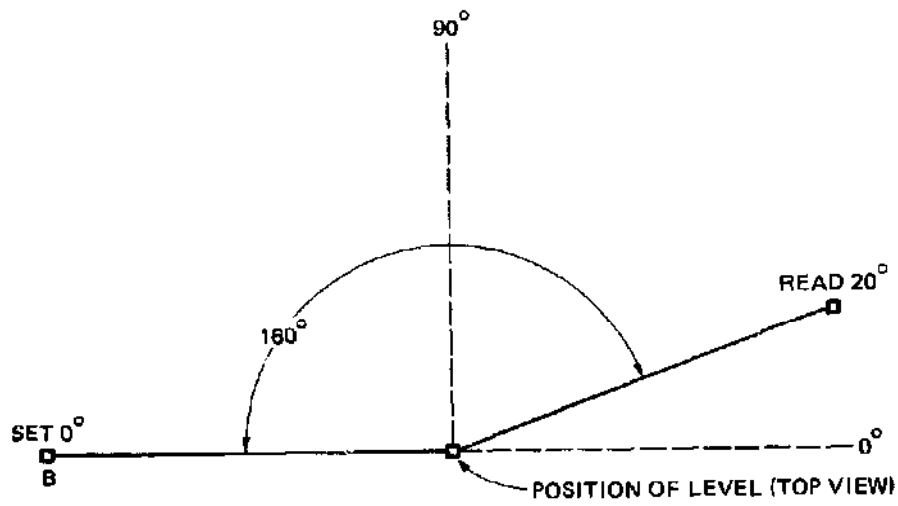

Fig. 5-44 Measuring an angle greater than 90 degrees
5. If the angle is greater than 90°, the vernier will travel out of the original quadrant as shown in figure 5-44. The reading 20° shown is measured from the direction opposite to B. Thus, the angle is $90^\circ + 90^\circ - 20^\circ = 160^\circ$. If the reading were 21° 35', the angle would be computed as follows: $90^\circ + 90^\circ - 21^\circ 35' = 158^\circ 25'$.